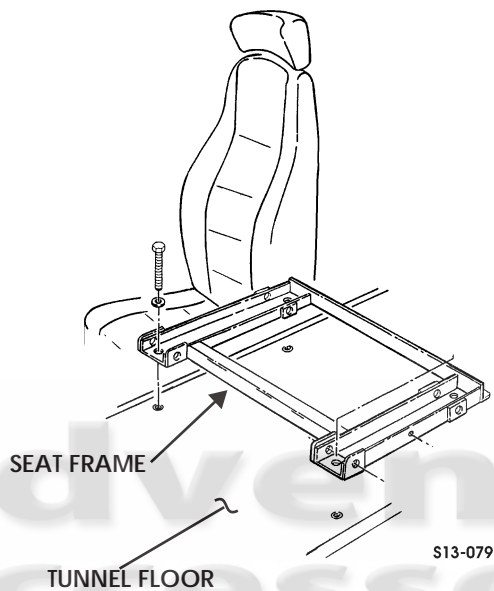

Figure 13-104: Auxiliary Seat Frame
3. Remove four capscrews, washers, and auxiliary seat frame from tunnel floor (Figure 13-104).
1. Install auxiliary seat frame on tunnel floor with four washers and capscrews (Figure 13-104). Torque capscrews to 27-30 lb-ft (36-40 N•m).